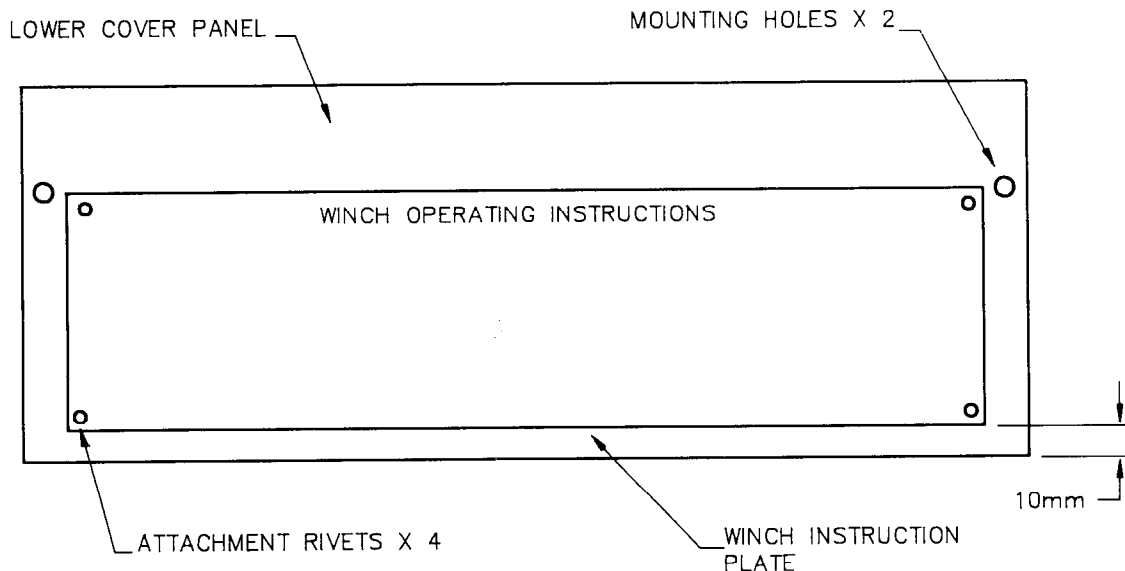

Figure 9 - Lower Cover Panel Plate
- ca. Position the instruction plate on the new lower cover panel (Item 12, Table 2) as shown in Figure 9.